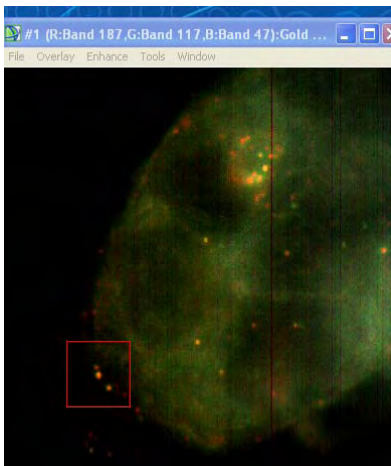

Figure 2. Gold nanorods (inside rectangle) in cell cluster
3. Move the Zoom area over the cluster of particles near the left of the tissue section (see Figure 2).